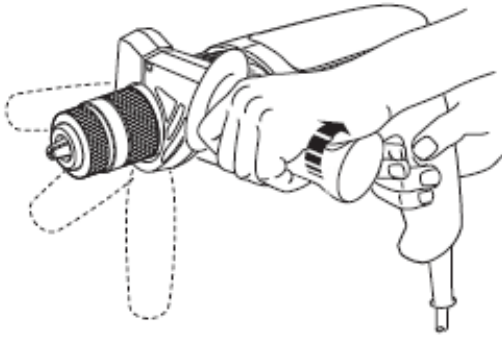

FIGURE 8.2
1. Turn the handle clockwise so that the handle support (figure 8.2) can slide on the front of the tool, as illustrated in figure 8.2. Set the desired position;